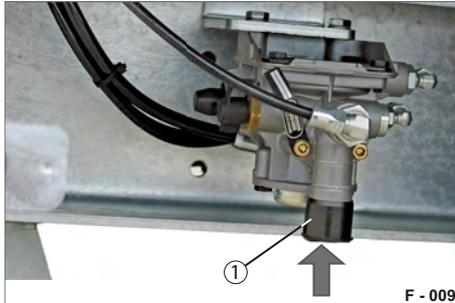

Fig. 8 Releasing the service brake
- ▶ Press the release valve (Fig. 8/1).